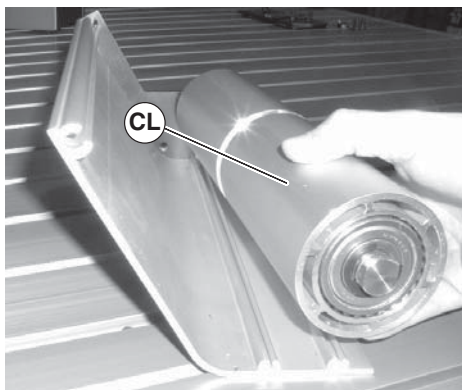

Figure 73
5. Slide the idler pulley assembly (Figure 73, item CL) out of the idler guide side plate on the opposite side.